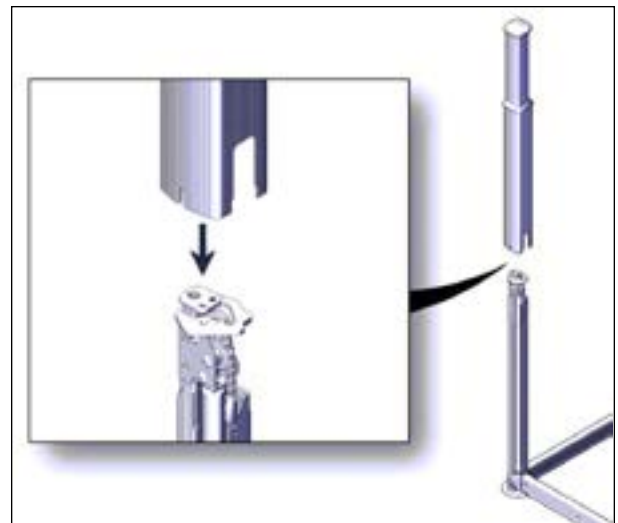

FIGURE 59: SLEEVE INSTALLATION
19. Slide the sleeves over all four jacks see Figure 59.